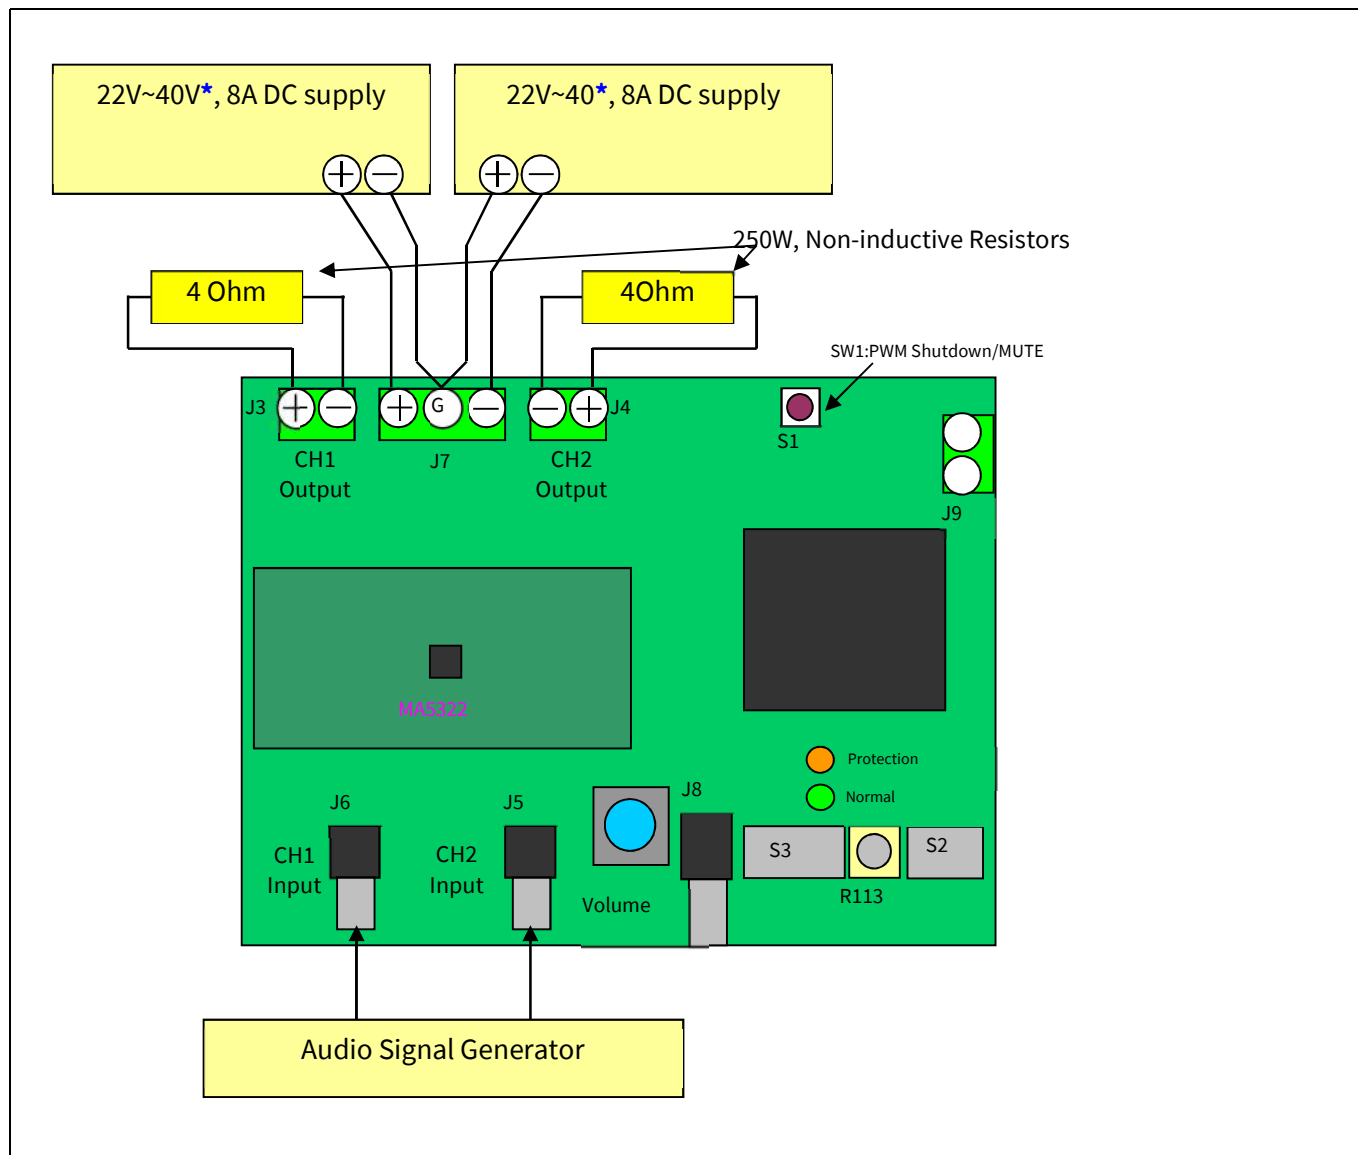
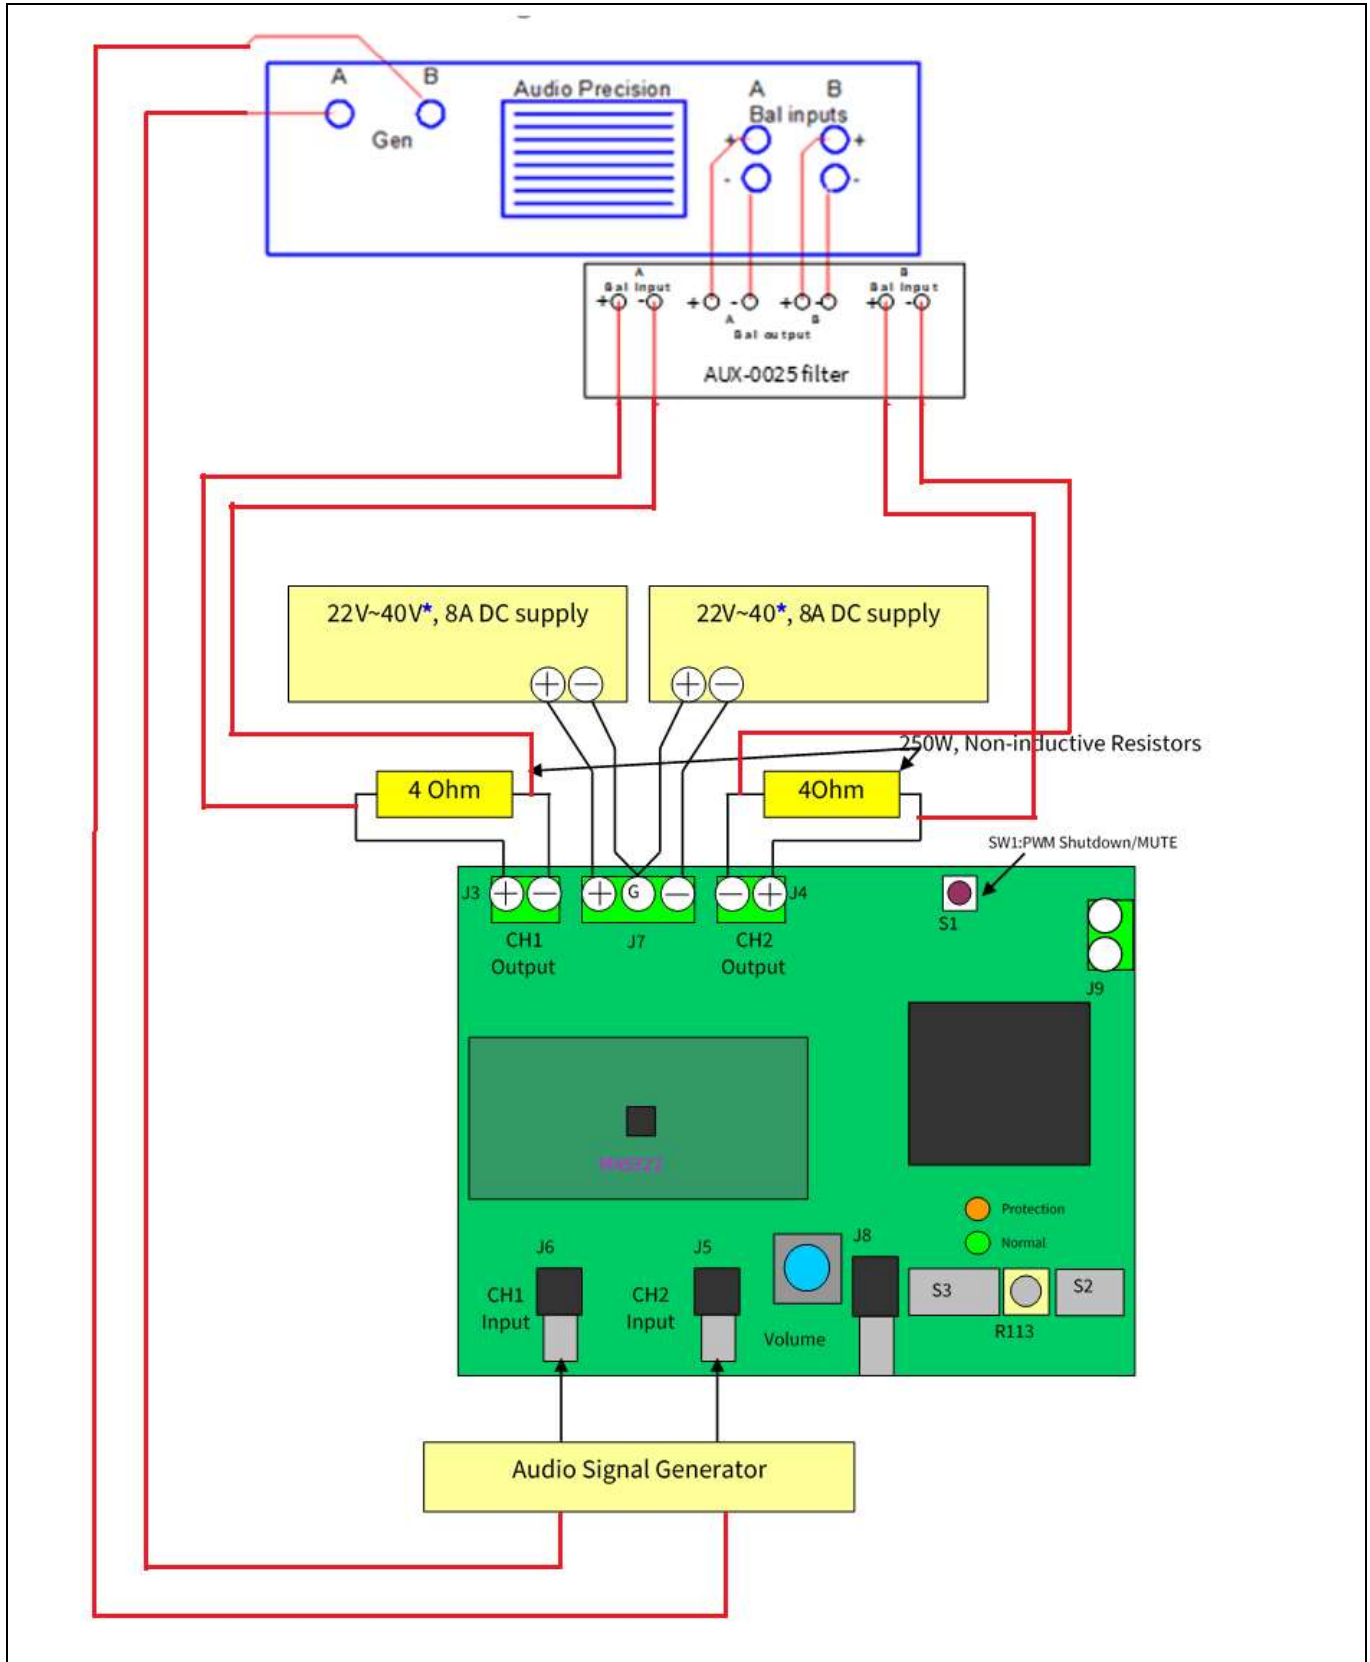

Figure 2 Typical connection connector description
Figure 3 Audio analyzer connection
1. Connect 4 Ω 250 W dummy loads to output connectors (J3 and J4 as shown in Figure 2) and parallel it with the input of the Audio Precision (AP) analyzer.
2. Connect the Audio Signal Generator (ASG) to J6 and J5 for CH1 and CH2 respectively (AP).
7. Connect the dual power supply to J7, as shown in Figure 2 or Figure 3